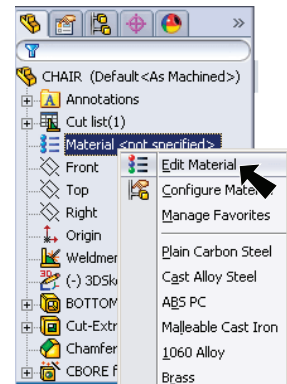

Fig. 34
Step 2. **Right click Material**  in the Feature Manager and click **Edit Material**, **Fig. 34**.